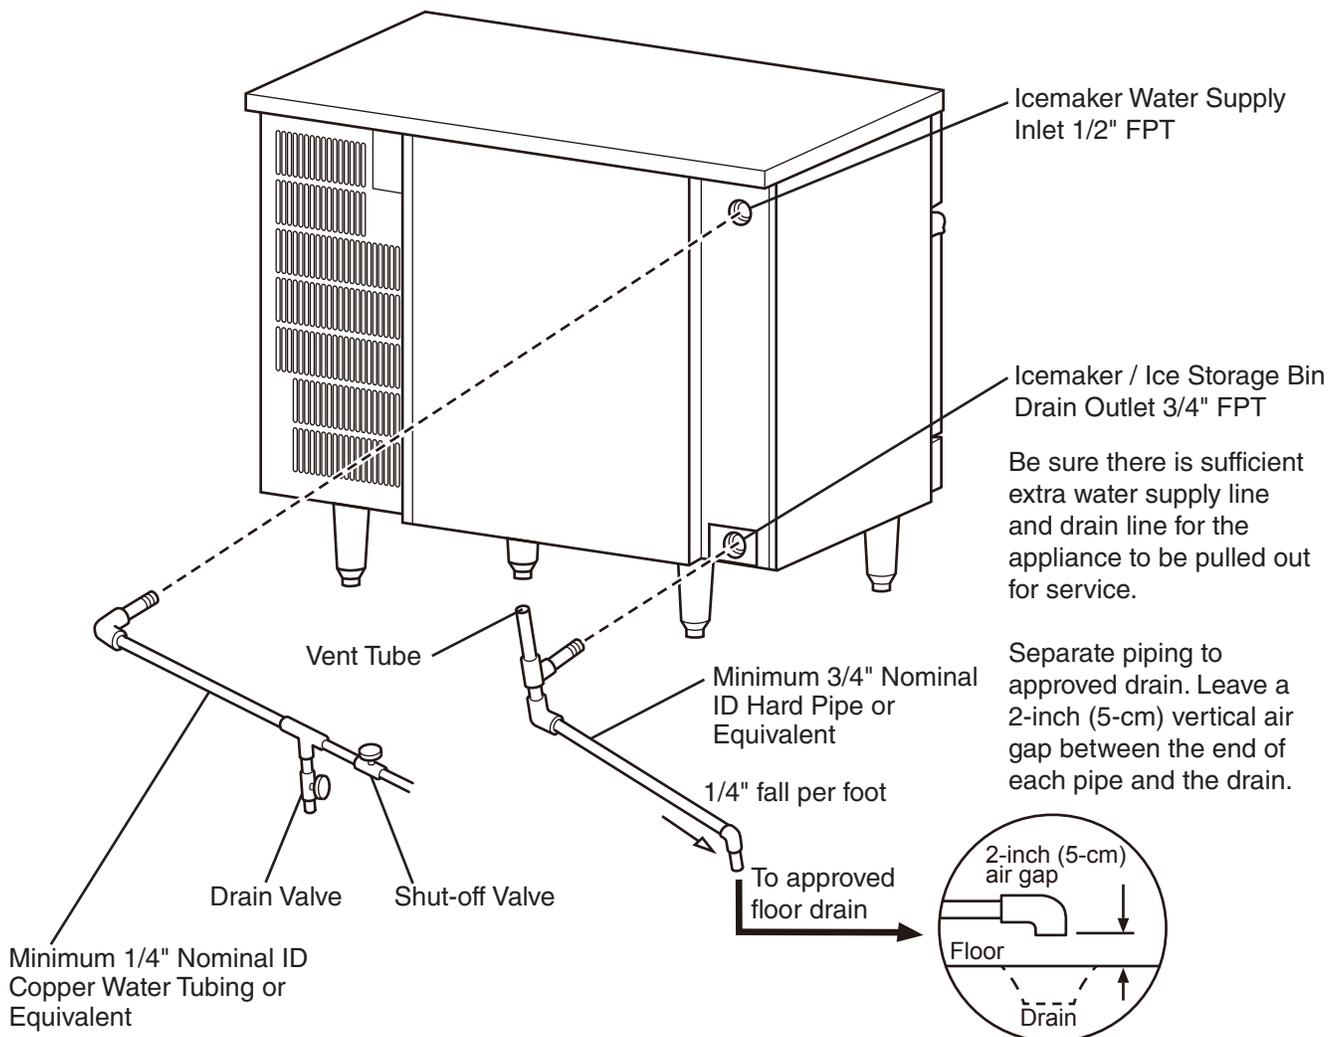

Fig. 4
See Fig. 4
- 7) Close the icemaker water supply line shut-off valve. See Fig. 4.